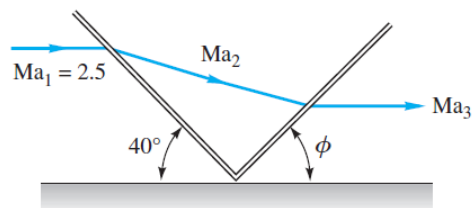

Fig. 9.15
9.15 When an oblique shock strikes a solid wall, it reflects as a shock of sufficient strength to cause the exit flow Ma_3 to be parallel to the wall, as in Fig. 9.15. For airflow with $Ma_1 = 2.5$ and $p_1 = 100$ kPa, compute Ma_3 , p_3 , and the angle ϕ .